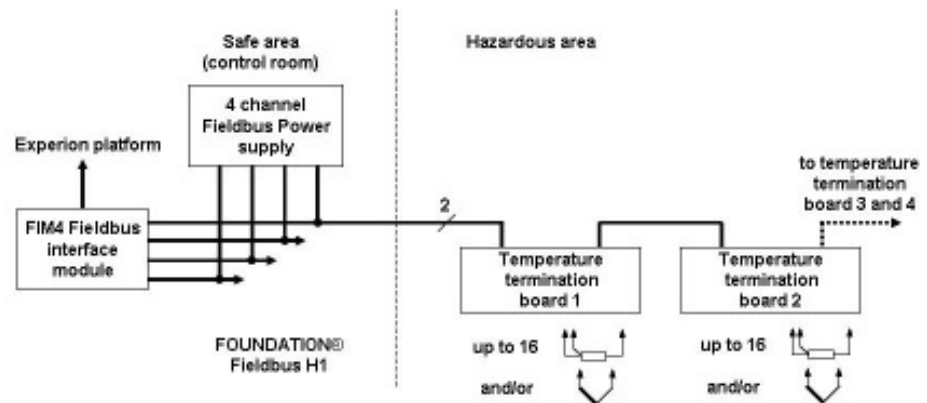

Figure 2: Transmission of temperature signals via FOUNDATION™ fieldbus
- 4 temperature termination boards per segment, where each termination board consists of one FieldBarrier and two 8-channel TM-I (see Figure 2). This is equal to 16 temperature signals per termination board or 64 temperature signals per segment.